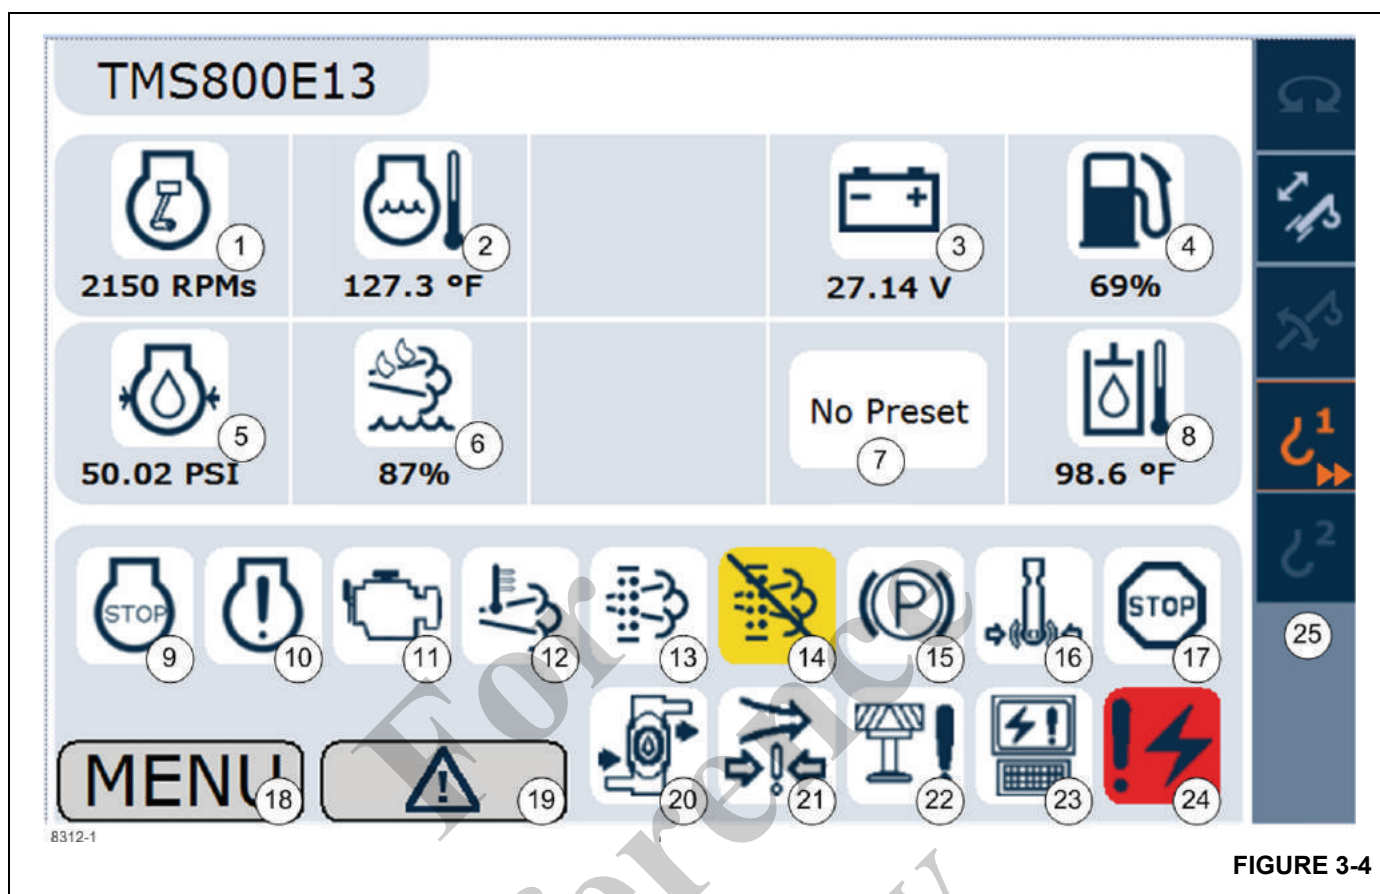

FIGURE 3-4
This screen (Figure 3-4) is the operator's main screen and will be the first screen visible after the splash screen. It shows engine and crane system indicators and information.
Engine RPM (1) (Figure 3-4)